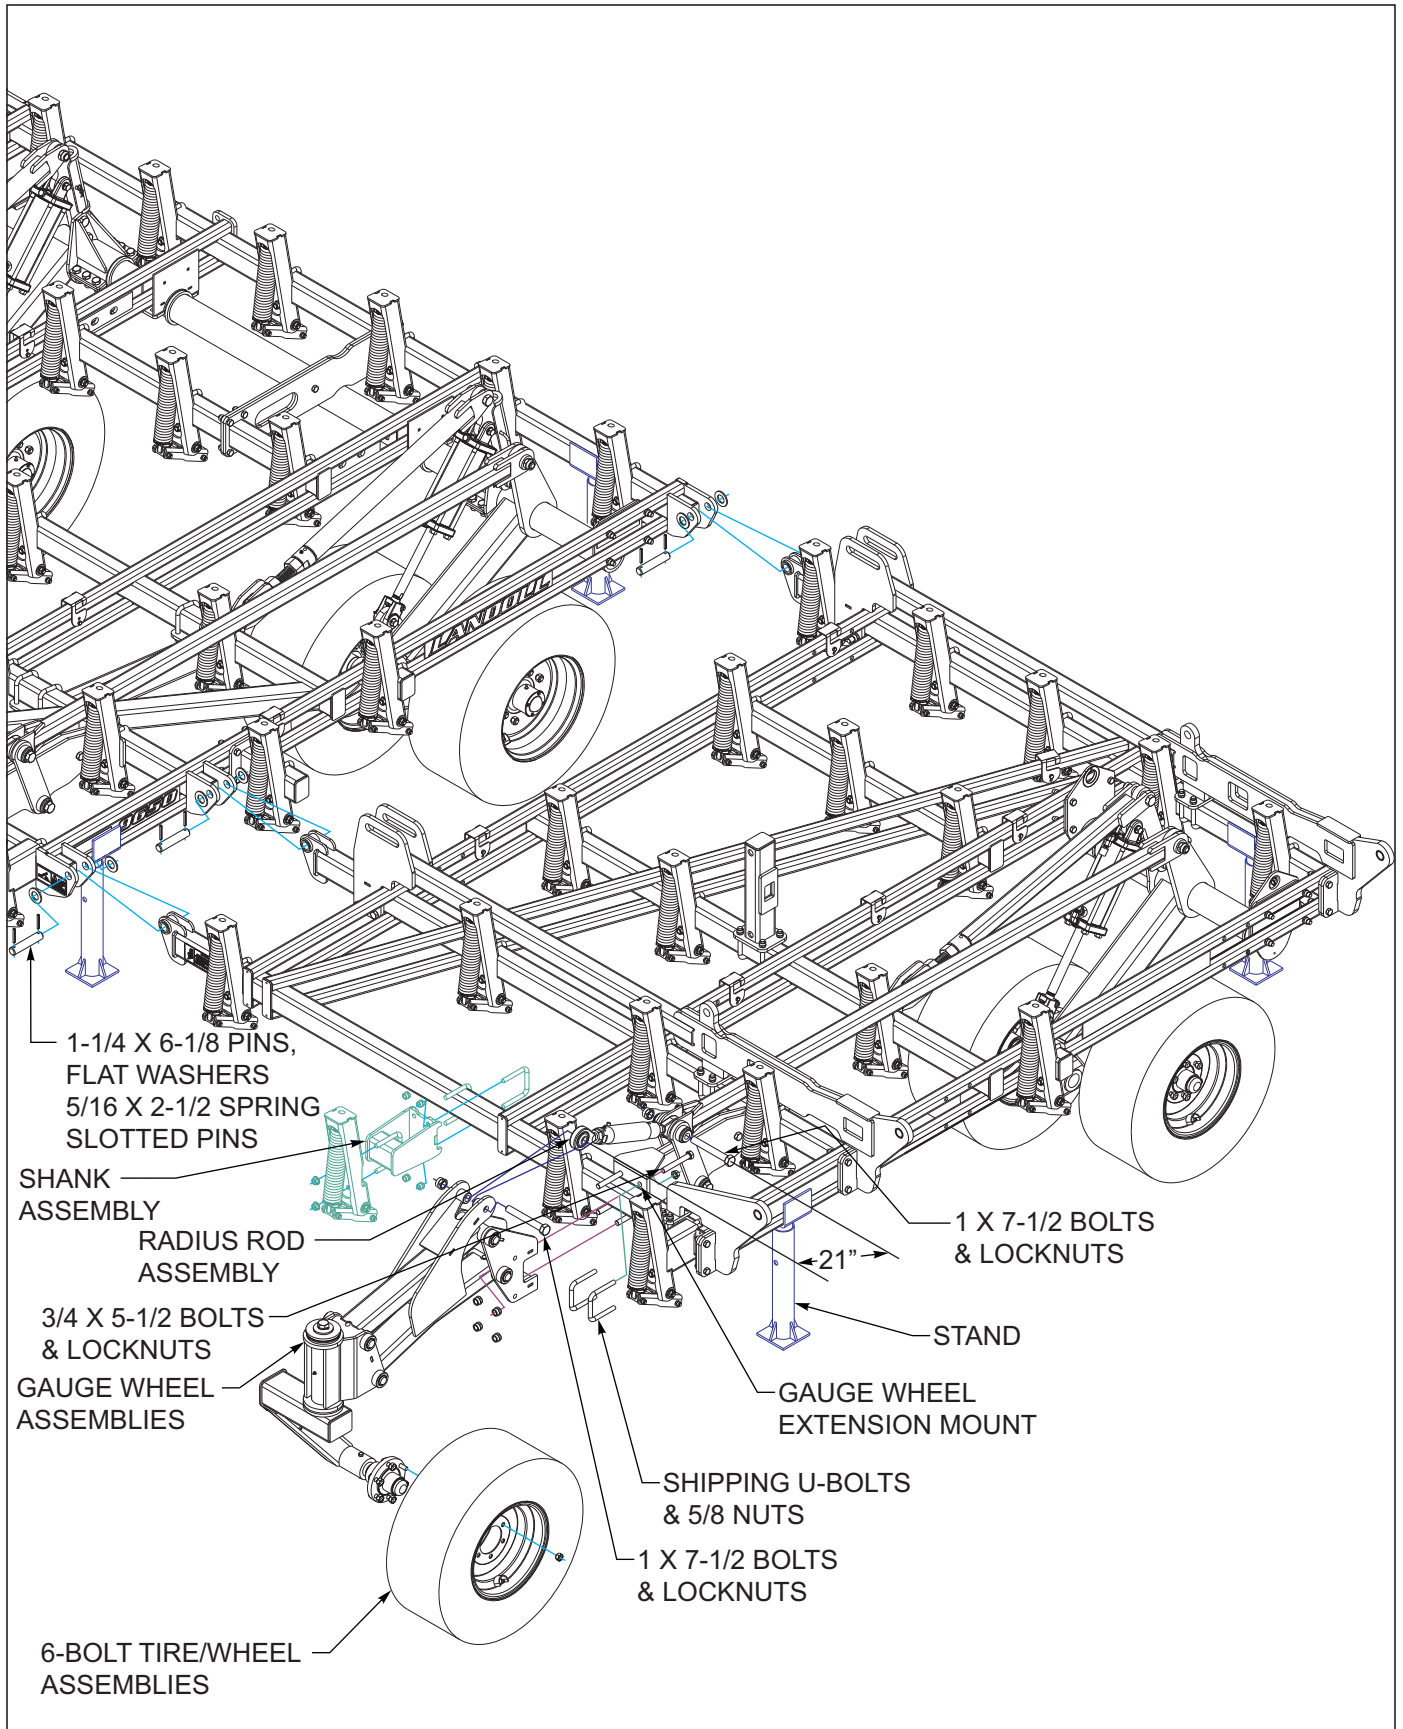

Figure 3-6: Inner Wing Assembly
1. Attach inner wing frames to center frame using 1-1/4 flange bearings, flat washers, 1-1/4 x 6-1/8 pin and 5/16 x 2-1/2 spring slotted pins **See Figure 3-6.**
3. Remove any shank assemblies or extensions that have been turned around or mounted inside the frame for shipping, and reposition. **See Figure 3-6** shank placement.
1. Remove the shipping u-bolts and nuts from front of the gauge wheel extension mounts **See Figure 3-6.**